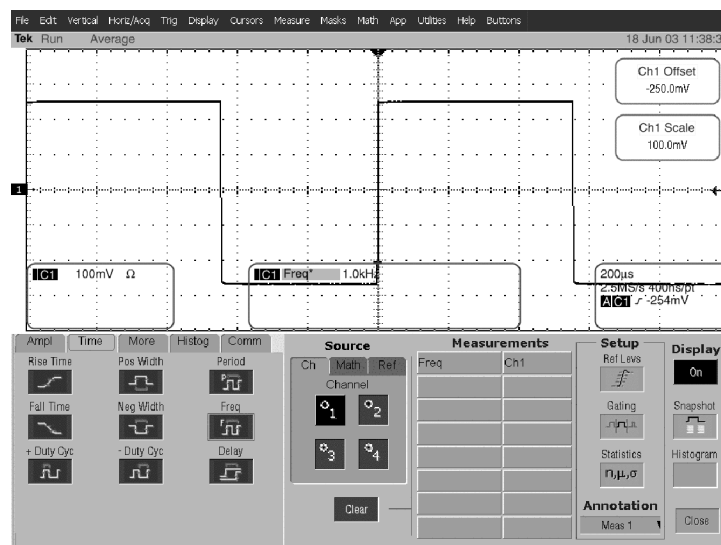

Figure 4-24: Measurement of probe compensator frequency
- CHECK that the **CH 1 Freq** readout is within 950 Hz to 1.050 kHz, inclusive. See Figure 4-24.